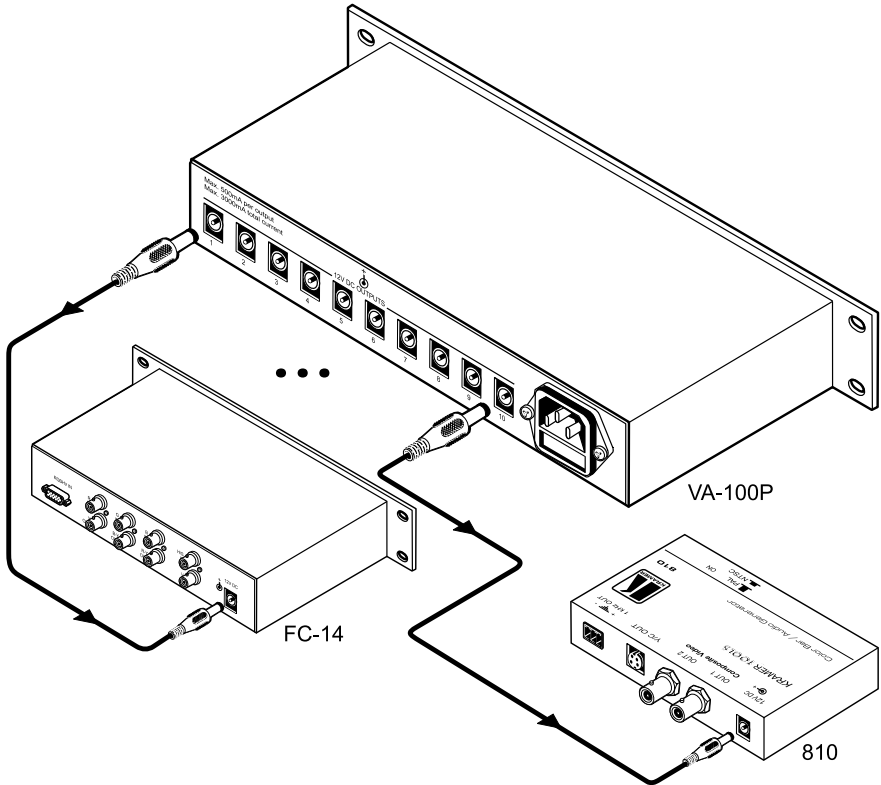

Figure 2: Connecting the VA-100P Power Supply
To use your **VA-100P**, as the example in Figure 2 illustrates, do the following:
1. Connect up to 10 power outlets, using DC-to-DC cables¹. The example in Figure 2 illustrates how to connect the *12V DC OUTPUT 1* power outlet to the *12V DC* power inlet on a Kramer **FC-14 RGBHV to Component Transcoder**, and how to connect the *12V DC OUTPUT 10* power outlet to the *12V DC* power inlet on a Kramer Tools **810 Color Bar / Audio Generator**.